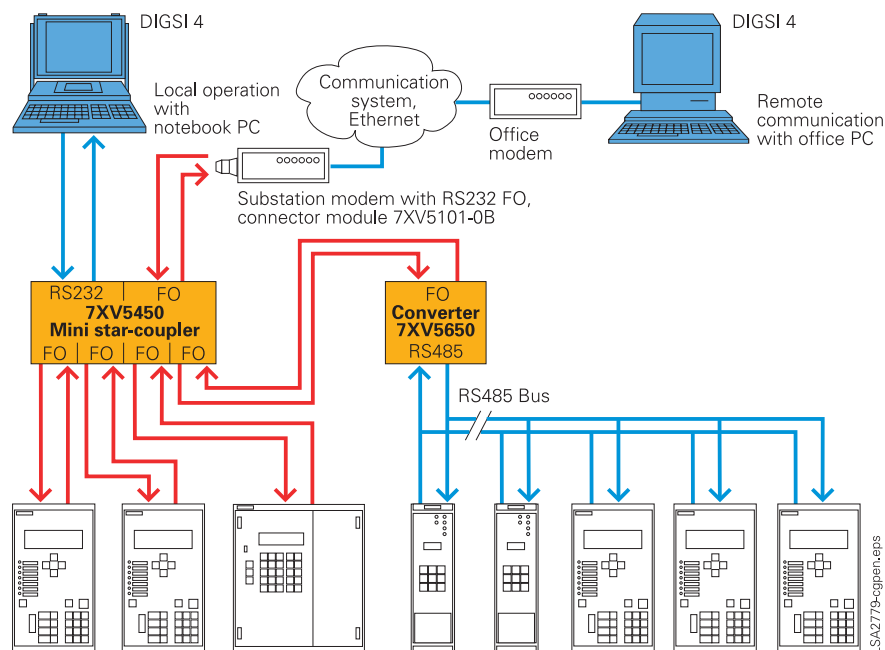

Fig. 4/4 Mixed system, FO/RS485 with units from different families (Example 3)
- Relays that are not available with communication functions according to IEC 60870-5-103 protocol (e.g. 7VE51, 7VK51, 7SV51 and older firmware versions of some relays) can also be connected via the active star-coupler as illustrated in Fig. 4/5. In this case one output must be assigned to each relay. The baud rate must be set according to the unit.